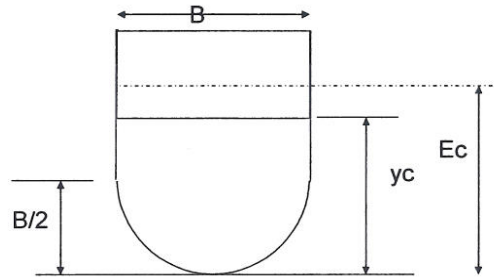

Figure 1.
2. The specific energy for the open channel in Figure 1 is 12 ft. Given  $B = 10$  ft